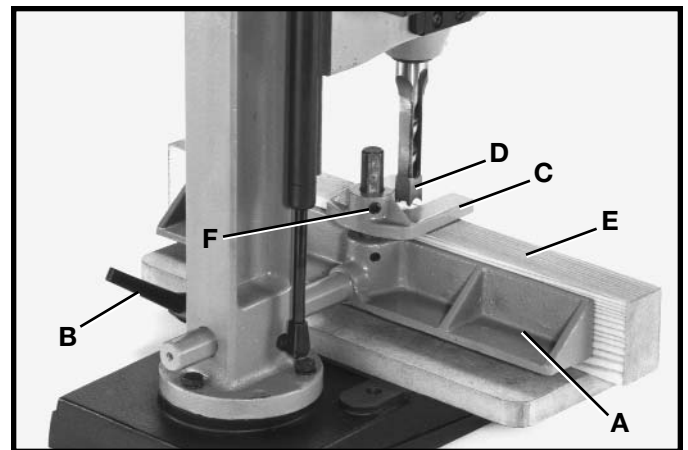

Fig. 30
The fence (A) Fig. 30, can be moved in or out by loosening lever (B), sliding fence to the desired position and tightening lever (B). **NOTE:** Lever (B) is spring-loaded and can be repositioned by pulling out on the lever and repositioning it on the serrated nut located underneath the lever.
The purpose of the holddown (C) Fig. 30, is to prevent the workpiece (E) from lifting as the chisel (D) is raised up, out of the hole. The holddown (C) should be adjusted so it just touches the top of the workpiece (E) and allows the workpiece to slide left or right. The holddown (C) can be turned upside down to accommodate thicker workpieces. To adjust the holddown (C), loosen screw (F), position holddown, and tighten screw (F).